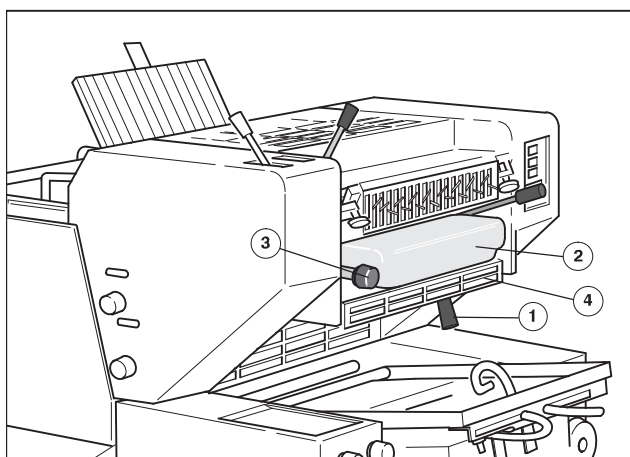

Fig. 64 Connecting dampening system 2 with inking unit 2
1. Remove the dampening solution container (Fig. 64/2).
2. Set the control knob for the dampening solution metering (Fig. 64/3) to "5".
4. Fold down the guard in front of the dampening solution pan (Fig. 64/4).
7. Move the lever (Fig. 64/1) upwards, in order to connect dampening system 2 with inking unit 2.